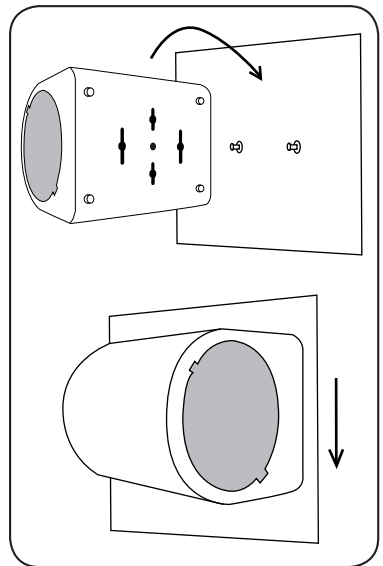

Fig.22: Adjust the mounting screws as needed to ensure the ScentWave is securely in place.
- Line up the slots on the ScentWave system with the screws in the wall and slide into place. **(Fig.22)**